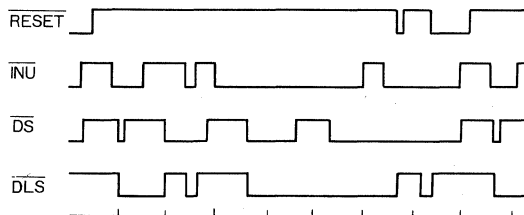

Fig.20 IUOP0=L
(4) INUSE LED (Table6, 7, Fig.20, 21, 22, 23参照)